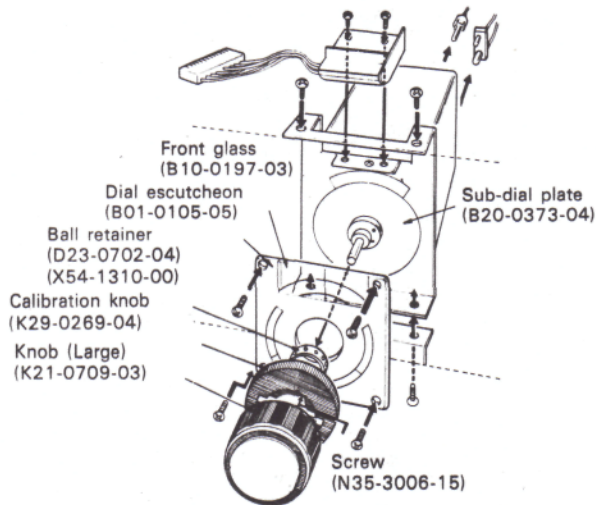

Fig. 19 Removing the VFO
- 1) For the mounting produce of the Counter Ass'y see "Fig. 19".
- 3) For V and S types, removal should be in accordance with Fig. 19.